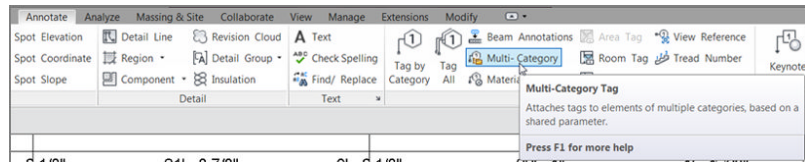

FIGURE 11.81: The Multi-Category button on the Tag panel
13. On the Annotate tab, click the Multi-Category button on the Tag panel, as shown in Figure 11.81.